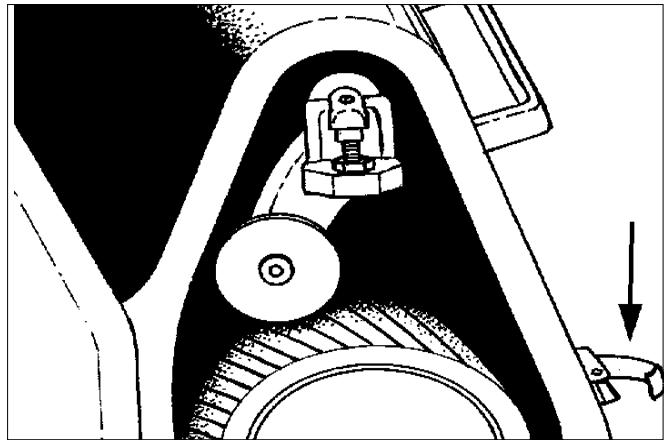

Figure 12
7. Install a new abrasive belt by sliding the abrasive over the tension roller and drum. (See Figure 12)